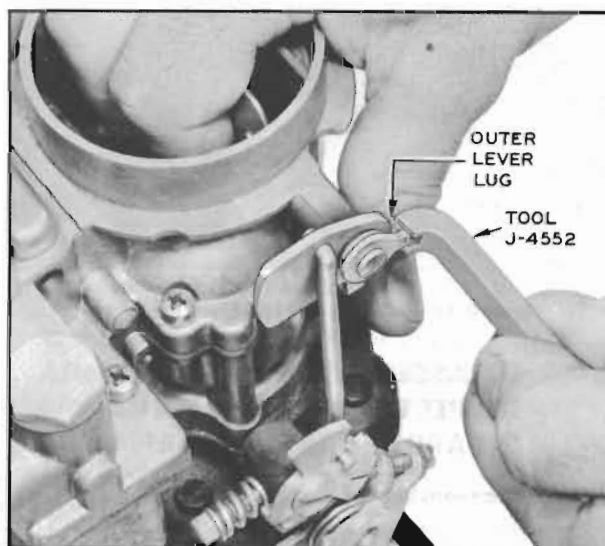

Figure 3-27—Adjusting Fast Idle Cam Position
2. If mark does not align, bend outer lever lug using Tool J-4552 (or needle nose pliers) as required to make mark align. See figure 3-27.